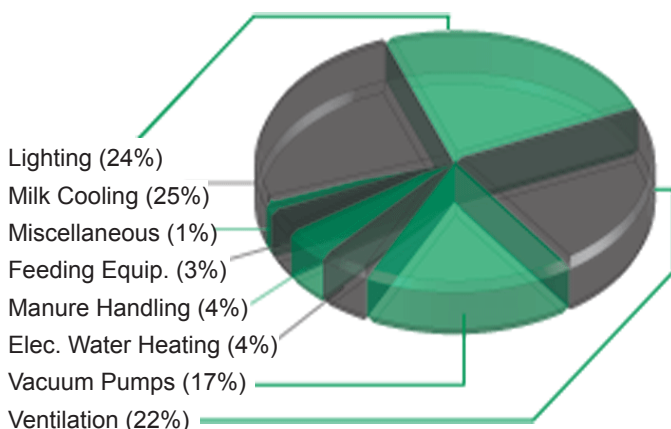

Figure 1. Energy use by equipment category.
It is apparent from Figure 1 that the largest consumers of energy in both types of farms in decreasing order are milk cooling (25%), lighting (24%), ventilation (22%) and vacuum pumps (17%). The improved efficiency of VSDs in vacuum pumps has dropped this long-run use to fourth place whereas features associated with housing such as lighting and ventilation have increased energy consumption.
Lighting, at 24% of energy use, is also important (Figure 1). Another list from Ontario (8) also offers useful energy reduction solutions.